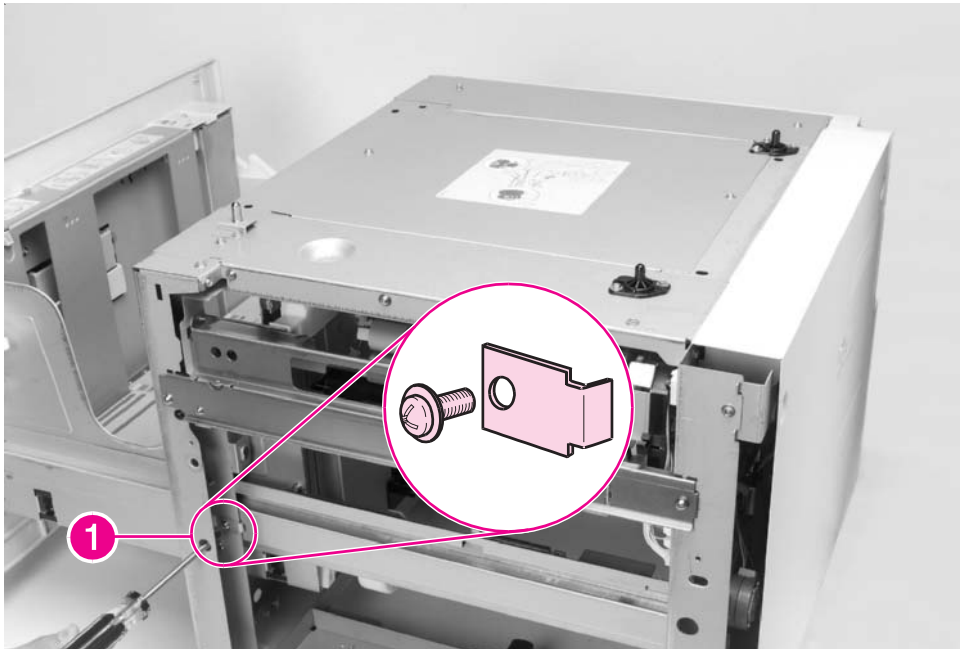

Figure 6-67 2000-sheet Input Tray Paper Tray
- 4 Remove the 2 screws and metal retaining tabs from the sides of the unit's chassis: 1 screw and retaining tab on each side of the chassis (figure 6-67, callout 1).
- 1 Make sure that the retaining tabs are tightly secured to the unit's chassis (figure 6-67, callout 1).